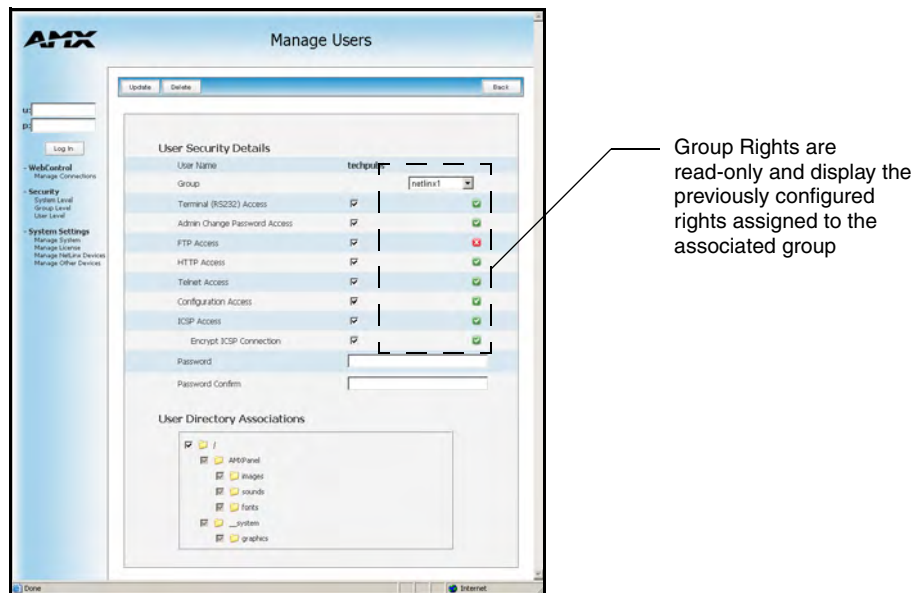

FIG. 54 User Level Security - Modifying a User's Security rights
2. Click the **Select** button next to the selected User's name to open the Configure User Properties page for the particular user (FIG. 54).
- From within the User Security Details section, modify any previously configured access rights by either placing or removing a checkmark from within any of the available checkboxes (FIG. 54).